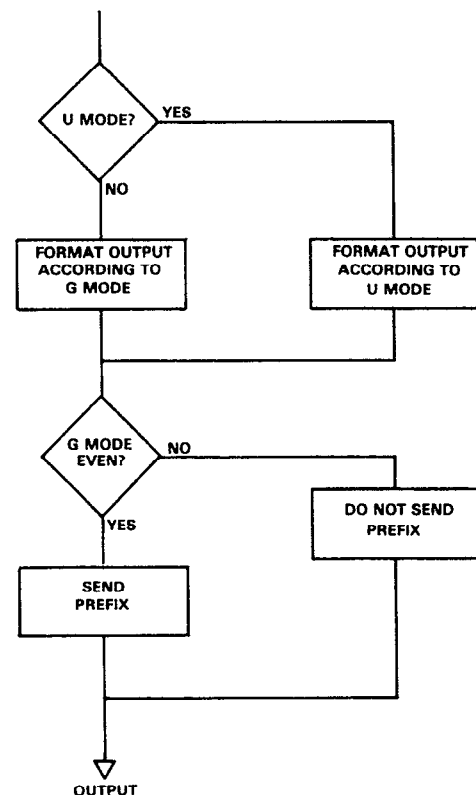

Figure 3-6. U and G Mode Sequence
U0—Sending the U0 command outputs the present channel number. The present channel number can be sent with or without a prefix depending on the present prefix mode (G). Refer to the flowchart in Figure 3-6 for the sequence of sending the U and G modes. Refer to paragraph 3.5.8 step 7 for information concerning the prefix modes and their formats.
U1—Sending the U1 command outputs all the channel numbers. All the channel numbers can be sent with or without a prefix depending on the present prefix mode (G). Refer to the flowchart in Figure 3-6 for the sequence of sending the U and G modes. Refer to paragraph 3.5.8 step 7 for information concerning the prefix modes and their formats.
U2—Sending the U2 command outputs the digital I/O port status. The digital I/O port status can be sent with or without a prefix depending on the present prefix mode (G). Refer to flowchart in Figure 3-6 for the sequence of sending the U and G modes. Refer to paragraph 3.5.8 step 7 for information concerning the prefix modes and their formats.
U3—Sending the U3 command outputs the time and date. The time and date can be sent with or without a prefix depending on the present prefix mode (G). Refer to the flowchart in Figure 3-6 for the sequence of sending the U and G modes. Refer to paragraph 3.5.8 step 7 for information concerning the prefix modes and their formats.
U4—Sending the U4 command outputs the status word. The status word can be sent with or without a prefix depending on the present prefix mode (G). Refer to the flowchart in Figure 3-6 for the sequence of sending the U and G modes. Refer to paragraph 3.5.8 step 7 for information concerning the prefix modes and their formats.
U5—Sending the U5 command outputs the channel settle time. The channel settle time can be sent with or without a prefix depending on the present prefix mode (G). Refer to the flowchart in Figure 3-6 for the sequence of sending the U and G modes. Refer to paragraph 3.5.8 step 7 for information concerning the prefix modes and their formats.
U6—Sending the U6 command outputs the alarm time. The alarm time can be sent with or without a prefix depending on the present prefix mode (G). Refer to the flowchart in Figure 3-6 for the sequence of sending the U and G modes. Refer to paragraph 3.5.8 step 7 for information concerning the prefix modes and their formats.
U7—Sending the U7 command outputs the interval time. The interval time can be sent with or without a prefix depending on the present prefix mode (G). Refer to the flowchart in Figure 3-6 for the sequence of sending the U and G modes. Refer to paragraph 3.5.8 step 7 for information concerning the prefix modes and their formats.
U8—Sending the U8 command outputs the programmed first and last channel. The programmed first and last channel can be sent with or without a prefix depending on the present prefix mode (G). Refer to the flowchart in Figure 3-6 for the sequence of sending the U and G modes. Refer to paragraph 3.5.8 step 7 for information concerning the prefix modes and their formats.
U9—Sending the U9 command outputs the previously called buffer location. The buffer location can be sent with or without a prefix depending on the present prefix mode (G). Refer to the flowchart in Figure 3-6 for the sequence of sending the U and G modes. Refer to paragraph 3.5.8 step 7 for information concerning the prefix modes and their formats.